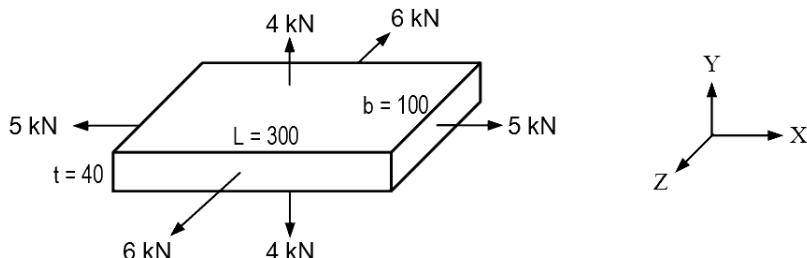

Figure.1
b) A metallic bar $300 \text{ mm} \times 100 \text{ mm} \times 40 \text{ mm}$ is subjected to external forces as shown in fig. 1. Determine change in volume of the block. Take $E = 2 \times 10^5 \text{ N/mm}^2$, $\mu = 0.25$. **6 Marks**